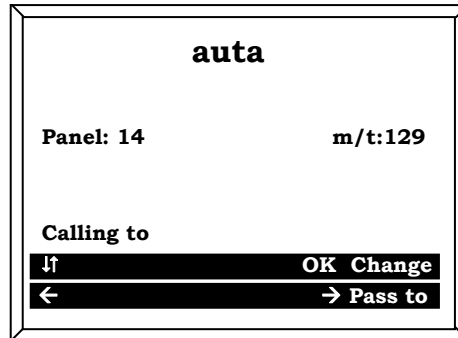

Figure 3. Call from the panel 14 to the monitor 129.
- The screen of the SB will show information about the tenant the call is addressed to and also the number of panel the call comes from (see Figure 3). This information will be shown over a blue screen if it is an audio installation, or over the outdoor video if it is a video installation.